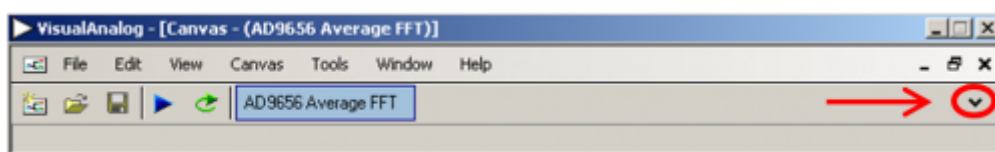
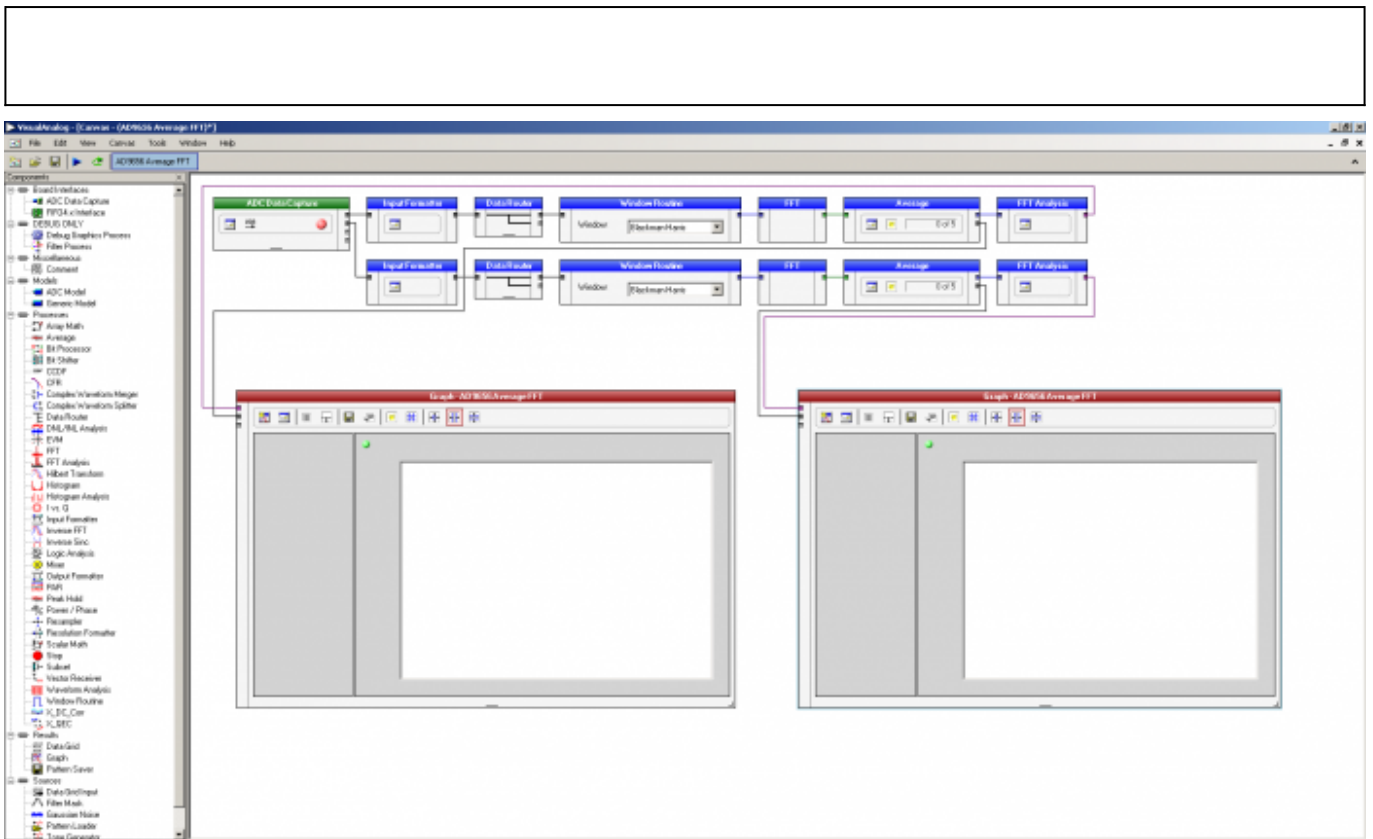

Figure 5. VisualAnalog Window Toolbar, Collapsed Display
Figure 6. VisualAnalog, Main Window Expanded Display
- To view the canvas and associated functional blocks, click the **Expand Display** button, located on the bottom right corner of the window (see Figure 5), to see what is shown in Figure 6.